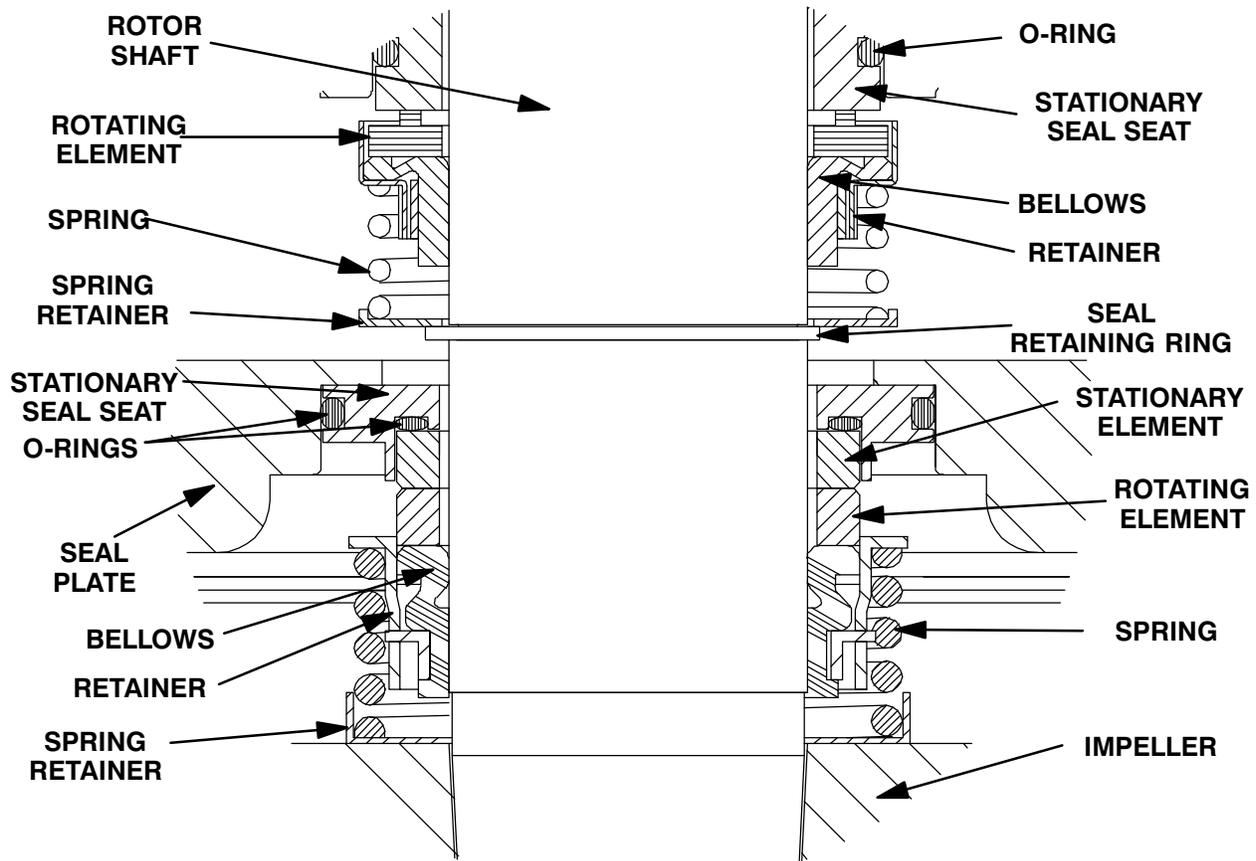

Figure C-3. Upper And Lower Seal Assemblies
Install the shaft seals as illustrated in Figure C-3.
Position the seal rotating portion on the lubricated shaft as shown in Figure C-3. Apply firm, steady pressure on the seal retainer and slide it down the shaft in one smooth motion until the seal faces contact. **Use caution** not to roll or cut the bellows on the groove for the retaining ring.
Slide the seal spring over the shaft and bellows retainer, and install the spring retainer. Install the seal retaining ring (35). See Figure C-3 for the proper order of seal assembly.
Position the seal rotating portion on the lubricated shaft as shown in Figure C-3. Apply firm, steady pressure on the seal retainer and slide it down the shaft until the seal faces contact.
Slide the seal spring over the shaft and bellows retainer and install the spring retainer. See Figure C-3 for proper order of seal assembly.